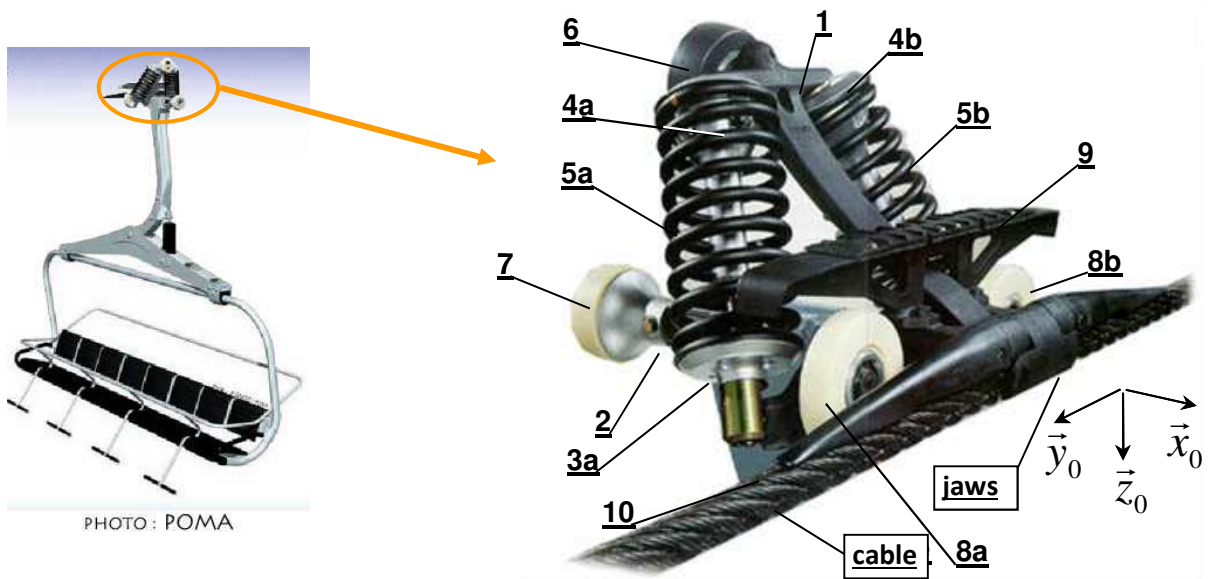
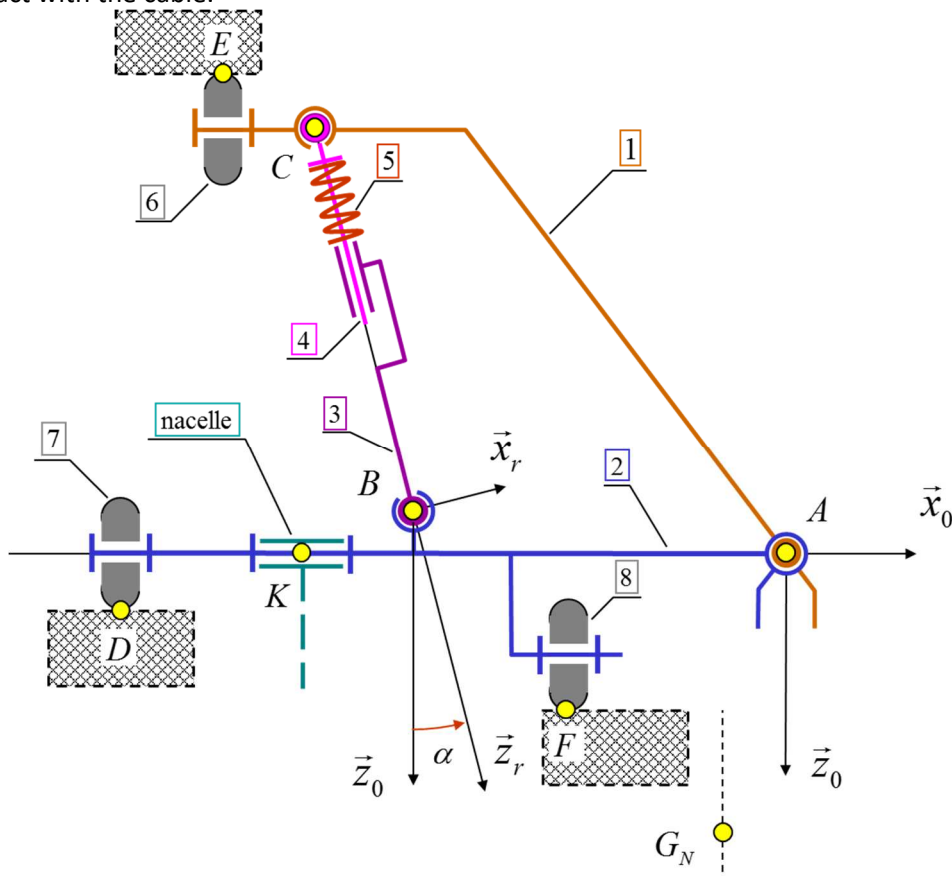

Figure 4: Chairlift disengageable clamp
Figure 5: Planar model of a chairlift disengageable clamp
The clamping system (Figure 4) makes disengagement possible. It is symmetrical with respect to the plane (jaw centre (A),  $\vec{x}_0, \vec{z}_0$ ) with two halves labelled a and b respectively. On account of this symmetry, an equivalent planar model can be constructed which is shown in Figure 5 for the passage-in-station mode. In this context, rollers (6, 7, 8a and 8b) are in contact with specific rails (attached to the ground) imposing their positions. The clamp is open and has no contact with the cable.